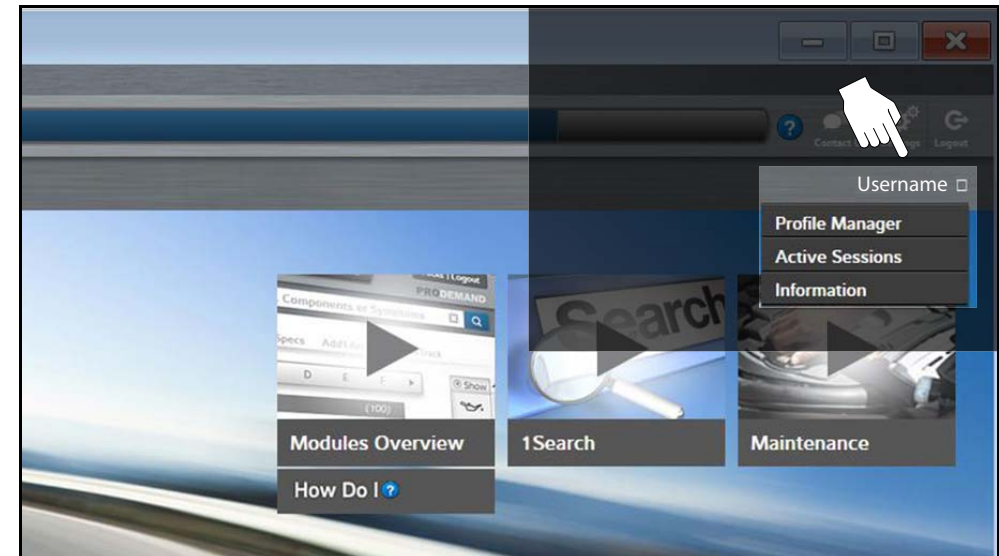

Figure 15-13
2. At the ShopKey Pro start page, select your username (Figure 15-13), then select **Profile Manager** from the dropdown menu.